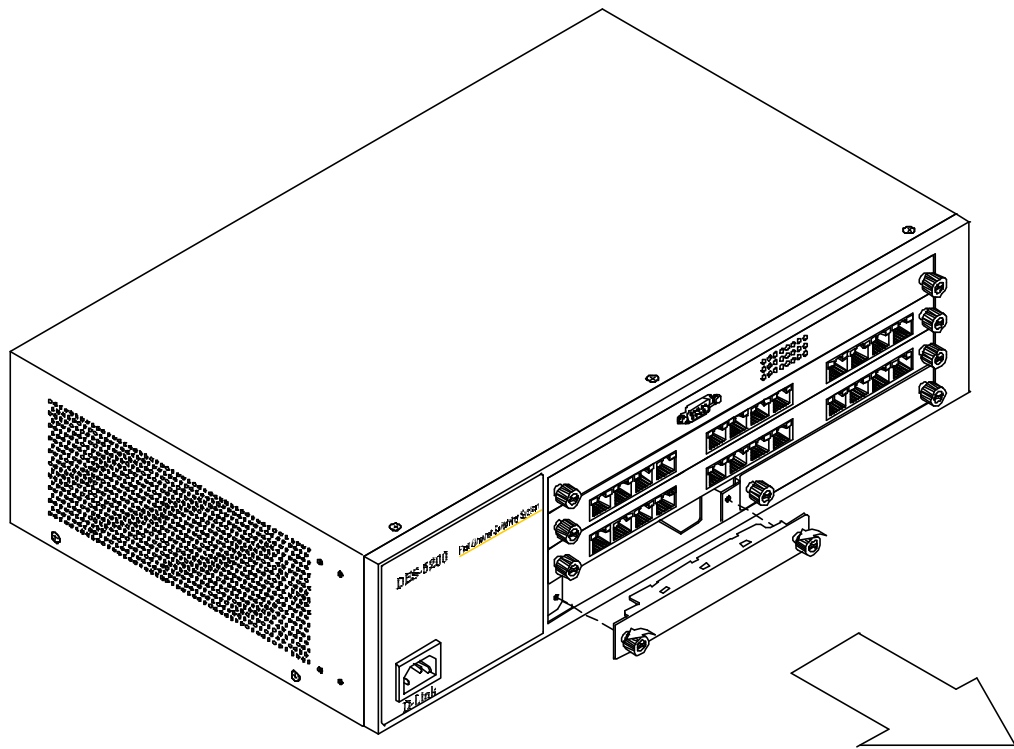

Figure 9: Remove Blank Bracket
2. Grasp the thumbscrews on the side of the module or blank bracket and turn counterclockwise to unscrew them. Remove the old module or the blank bracket, as shown in Figure 9 and set aside. Do not discard the module or blank bracket. Put the old module or blank bracket back in if you remove the new module.